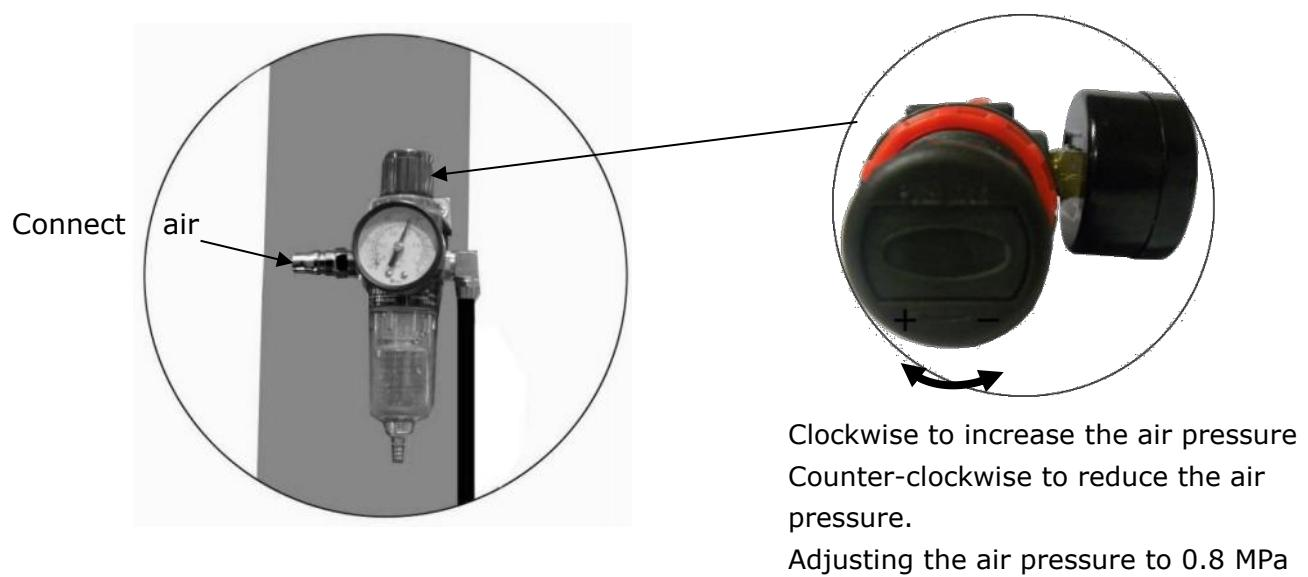

Fig.40
5. Connect to the air source , adjust the air pressure of oil-water separator to 0.8 MPa(**See Fig.40**)